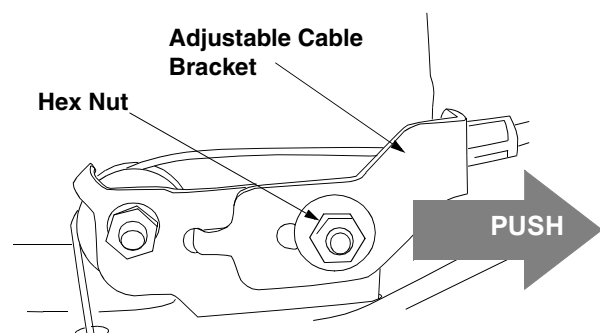

Figure 16
The adjustable cable bracket is located on the left side of the mower beside the engine. See Figure 16.
- Loosen hex nut which secures the adjustable cable bracket. See Figure 16.